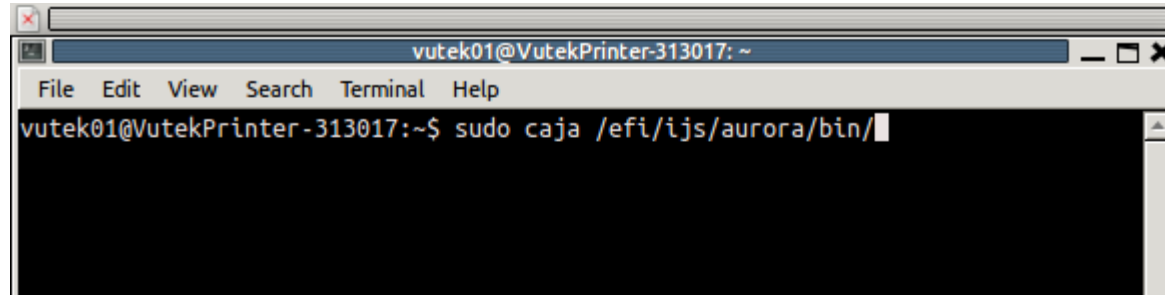

**Figure 1-11: Navigate to Theme Selection**
**Note:** If, when browsing, the software only displays the board FW versions or the \*.rpd file, make sure that the operating system's theme is set to "Ambiance, as shown in Figure 1-11 and Figure 1-12.